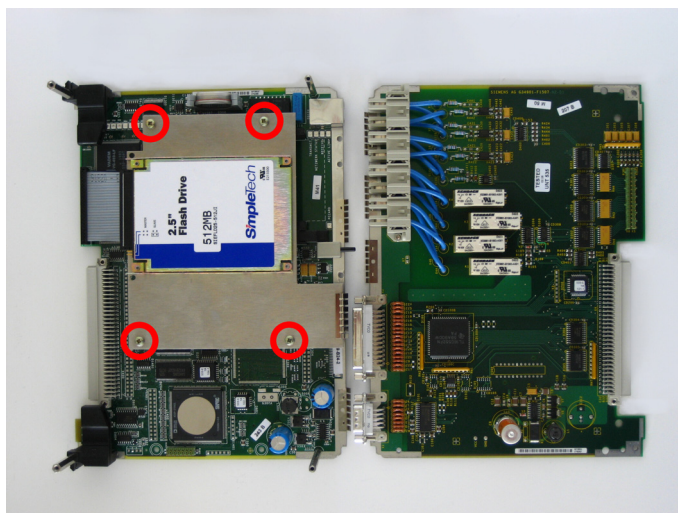

Figure 3-10 Fastening screws of the carrier plate
- Loosen the screws of the carrier plate with the 2.5" flash disk (see Figure 3-10).